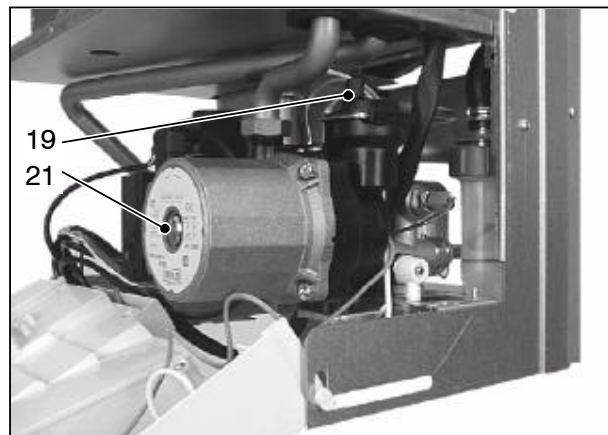

Fig. 7.2
- 3 Unscrew the cap on the automatic air purger-valve 19 (Fig. 7.2) one full turn and leave open permanently.
- 6 Purge the air from the pump by unscrewing the pump plug 21 (Fig. 7.2); release the pump shaft by turning in the direction indicated by the arrow on the information plate.